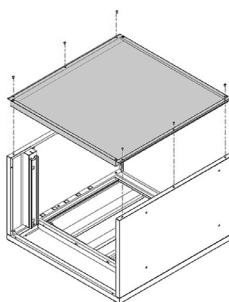

Figure 3
3. Install the back panel (#6) to the left-side and right-side panels. Secure each with M4 x 10 screws (Fig. 3).